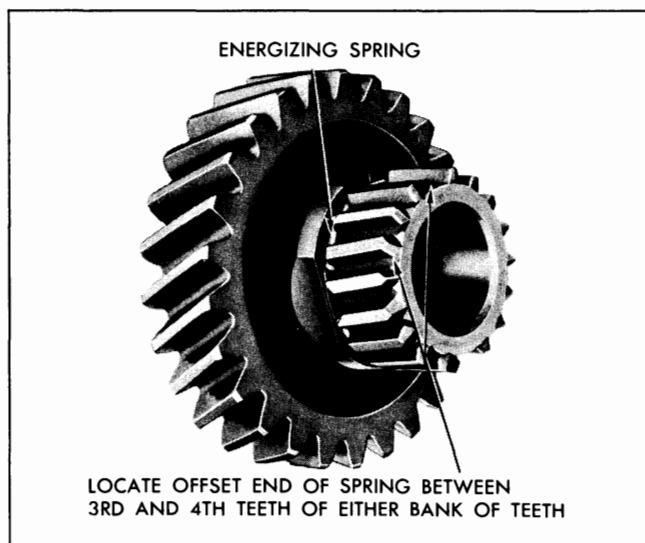

Fig. 7-28 Position of Synchronizer Ring Energizing Spring
1. One end of each spring is slightly offset. Each spring must be assembled in its groove in main drive (clutch) gear and second speed gear with offset, or locking end, between third and fourth tooth from either end of either of two banks of teeth on these gears. This prevents the spring from turning in its groove (Fig. 7-28).